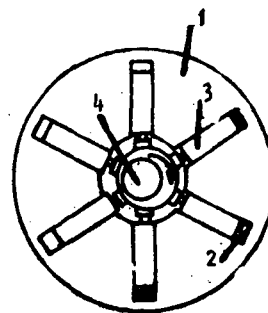

Fig. 4
STRUCTURE. These consist of a case (1 in Fig. 4) fitted with ports (2) which constitutes the cylinder block, their corresponding pistons (3) and a drive shaft (4) fitted with a cam which drives the above mentioned parts.